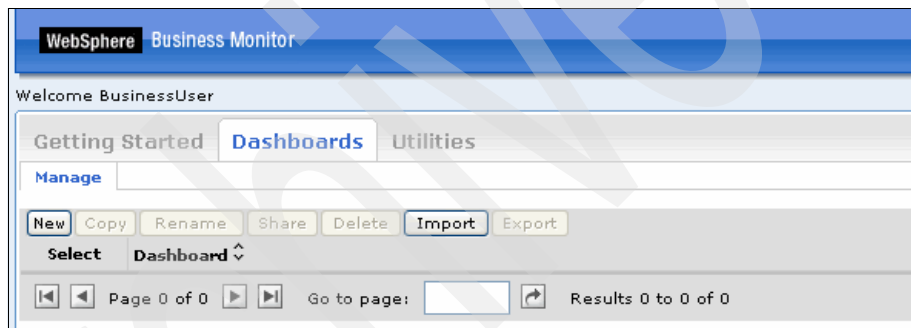

Figure 10-87 Dashboards panel in WebSphere Business Monitor
3. In the Welcome panel (Figure 10-87), click the **Dashboards** tab at the top. Click **New** to define a dashboard.